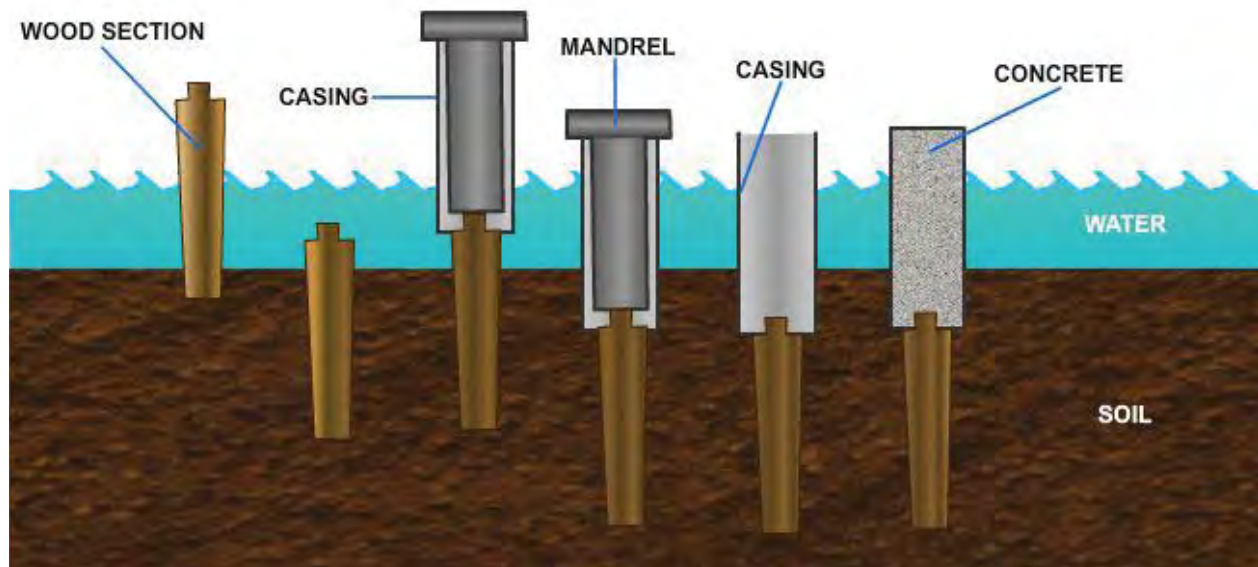

Figure 21-40 – Composite piles.
- **Composite Piles** – Composite piles are formed of one material in the lower section and another material in the upper section, as shown in *Figure 21-40*. A composite pile that is constructed of wood and concrete is used to support loads of 20 to 30 tons. A composite pile that is constructed of steel and concrete is used to support loads up to 50 tons. In *Figure 21-40*, the first section of wood or steel is driven first, and then a mandrel and steel **casing** are driven on top of the first section. The mandrel is removed and the casing is filled with concrete.